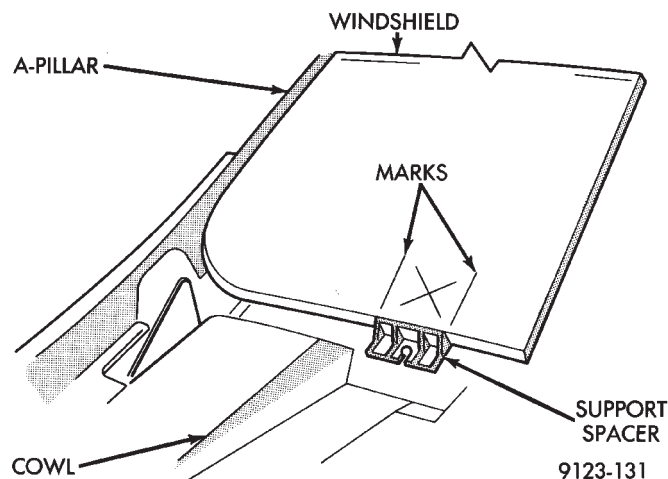
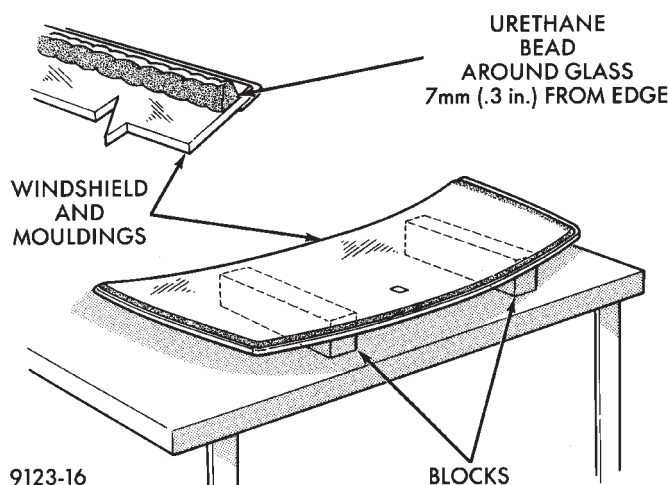

Fig. 3 Center Windshield and Mark at Support Spacers
Fig. 4 Work Surface Set up and Molding Installation
- (1) Place replacement windshield into position and center in the opening against the support spacers.
- (2) Verify the glass lays evenly against the pinch weld fence at the sides, top and bottom of the replacement windshield. If not, the pinch weld fence must be formed to the shape of the new glass.
- (3) Mark the glass at the support spacers with a grease pencil or pieces of masking tape and ink pen to use as a reference for installation (Fig. 3).
- (4) Remove replacement windshield from windshield opening.
- (5) Position the windshield inside up on a suitable work surface with two padded, wood 10 cm by 10 cm by 50 cm (4 in. by 4 in. by 20 in.) blocks, placed parallel 75 cm (2.5 ft.) apart (Fig. 4).